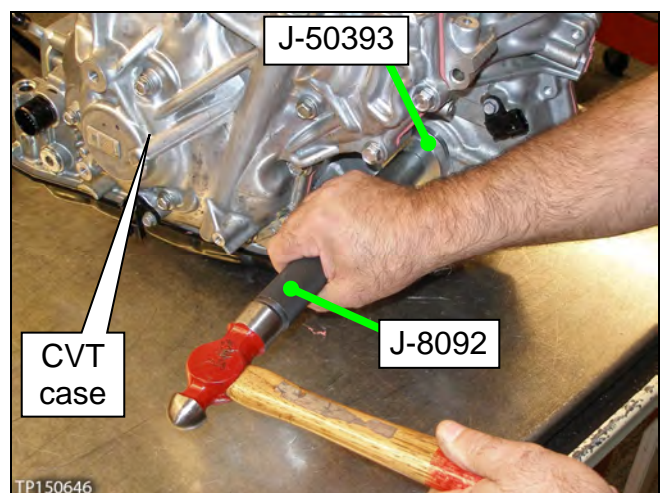

Figure 91
- For CVT case side, use Seal Installer J-50393 and Driver handle J-8092 (see Figure 91).